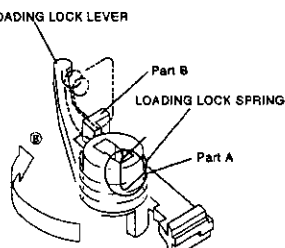

Fig. 2-30-2
1 Attach the LOADING LOCK SPRING shown in Fig. 2-30-2 to the LOADING LOCK LEVER.
2 Move the part A of the LOADING LOCK SPRING shown in Fig. 2-30-2 in the direction shown by arrow (B). Hook the part A of the LOADING LOCK SPRING on the catch of the part B of the LOADING LOCK LEVER.